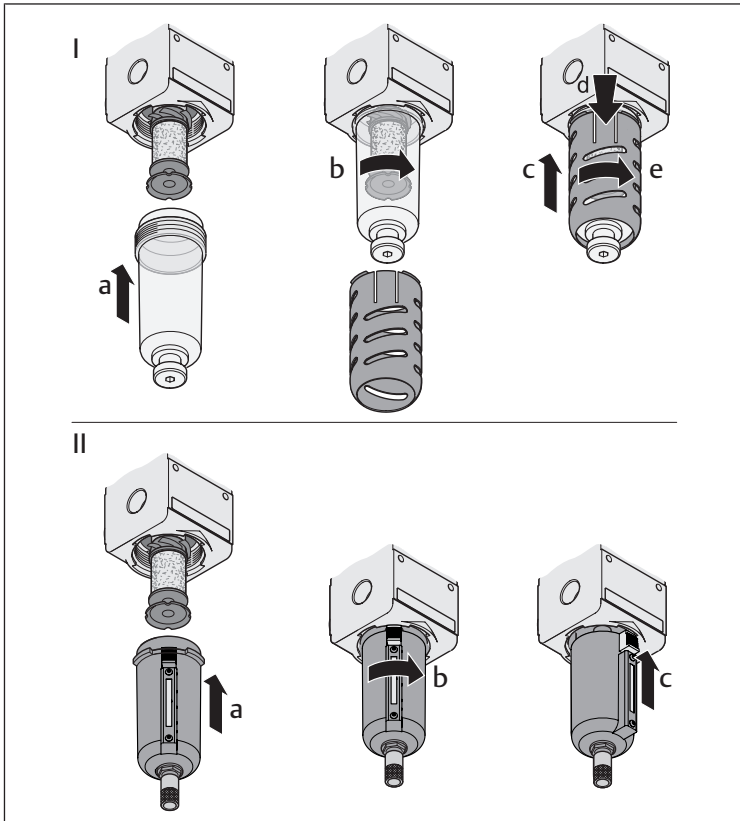
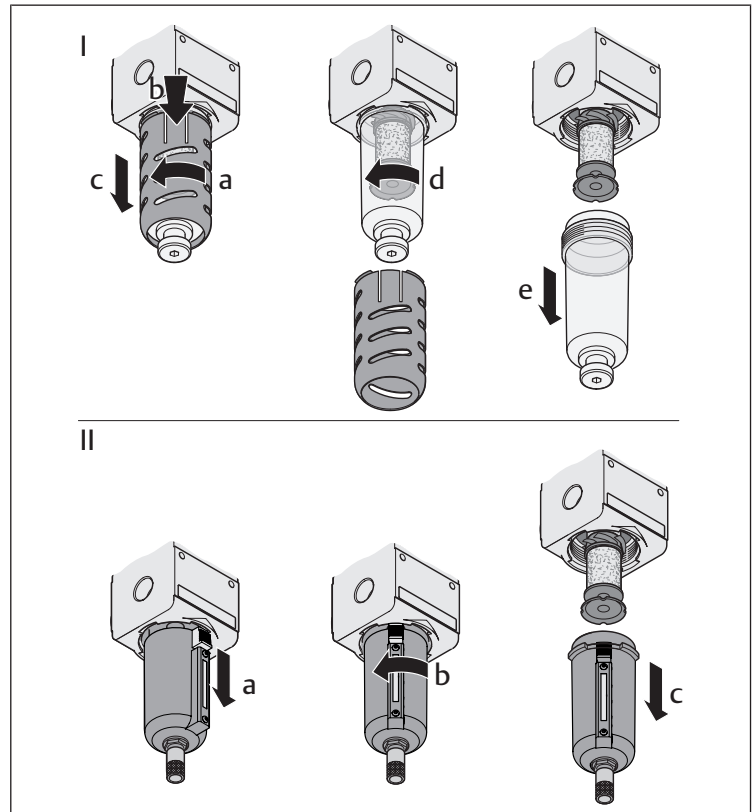

Fig. 2: Mount the reservoir and protective guard
Fig. 6: Disassemble the reservoir and protective guard
▶ Release the protective guard (→ Fig. 6 I a, – b), if present, and pull it off downwards (→ Fig. 6 I c).
▶ Unscrew the reservoir (→ Fig. 6 I d) from the housing.	Pull down the unlocking device (→ Fig. 6 II a), turn the reservoir (→ Fig. 6 II b) in an anti-clockwise direction, and then pull it down and remove (→ Fig. 6 II c).
▶ Mount the new reservoir with sensor and, if present, the protective guard in reverse order as shown in Fig. → Fig. 6 I (see order as shown in Fig. → Fig. 6 I (see also Fig. → Fig. 2).	Mount the new reservoir with sensor in reverse order as shown in Fig. → Fig. 6 II (see also Fig. → Fig. 2).